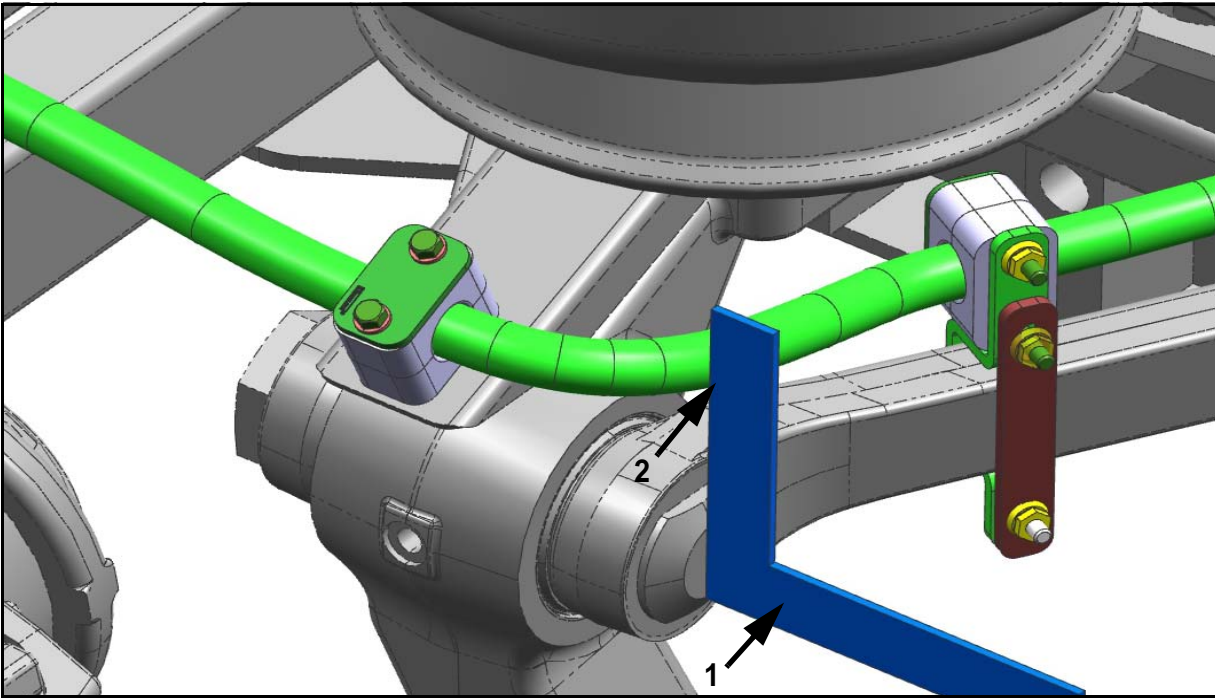

Figure 18.
46. Position a square across the face of the suspension arm bolt head (refer to Figure 18). Using a measuring tape, ensure that there is a minimum clearance of 0.06 inch between the edge of the front brake hose assembly and the edge of the square.
Item	Figure 18 Description